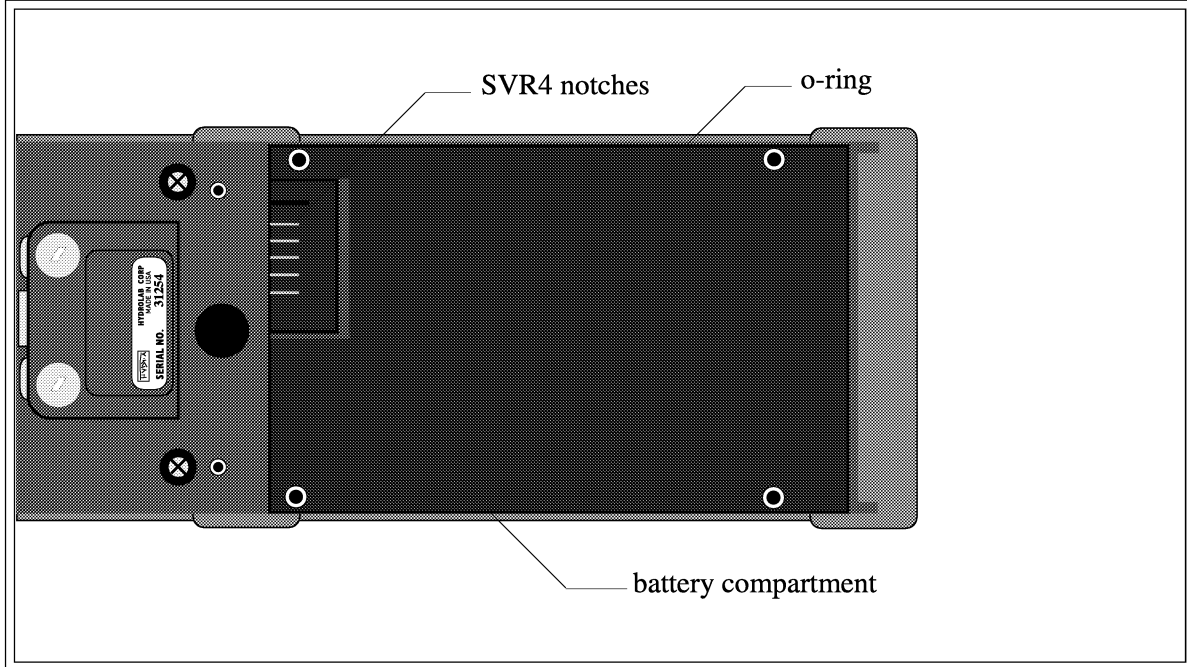

FIGURE 5: IDENTIFYING THE COMPONENTS
STEP 4: Insert the new battery in the battery compartment back panel, aligning the notches on the battery with the notches in the Surveyor 4 case (see figure 5).